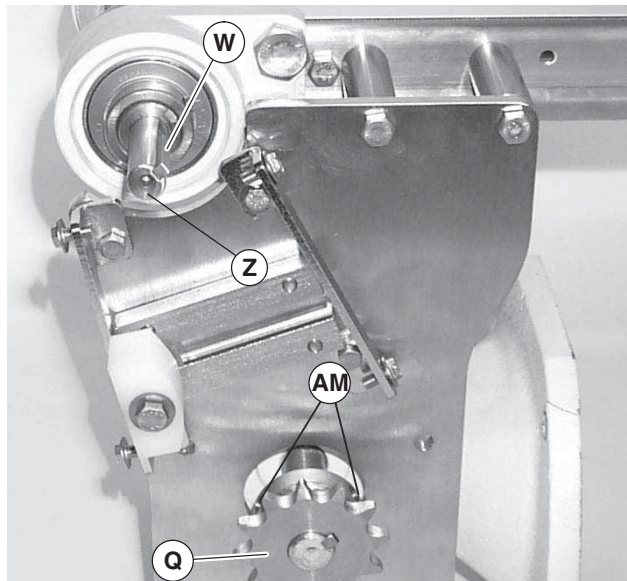

Figure 12
1. Install key (Figure 12, item W) into conveyor drive shaft (Z).
Depending on sprocket sizes, it may be necessary to remove drive sprocket (Figure 12, item Q) by loosening two set screws (AM) to install chain and sprockets.